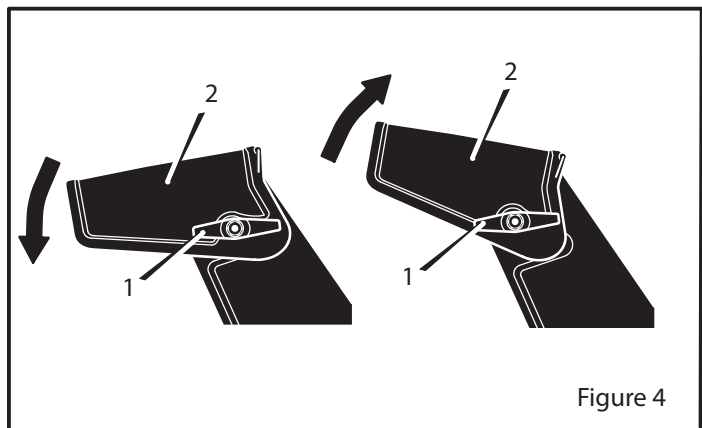

Figure 4
2. **(Figure 4)** Loosen the wing knob (1) on the chute deflector (2).